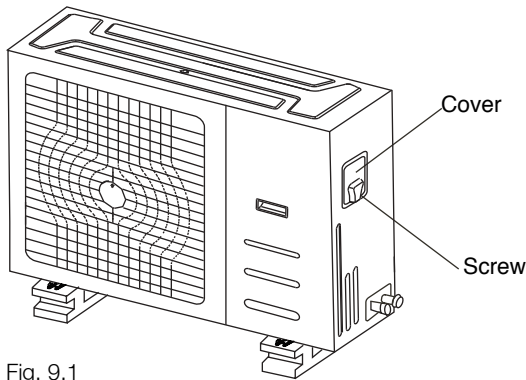

Fig. 9.1
- Remove the electric cover of the outdoor unit. If there is no cover on the outdoor unit, take off the bolts from the maintenance board and remove the protection board. (See Fig. 9.1)